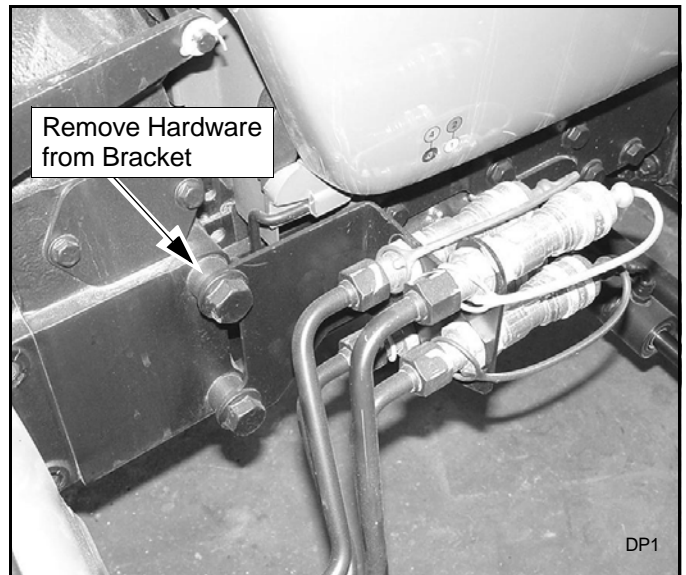

Figure 1 Remove Hardware From Quick Coupler Bracket
1. Remove two cap screws and spacers securing quick coupler bracket to right side of tractor housing as shown in Figure 1.